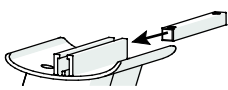

Figure 2
- Slide the rear stabilizer attachment bar 10 into the slot in the bike frame (Figure 2).
- Slide the front stabilizer attachment bar 10 into the slot in the bike frame (Figure 2).